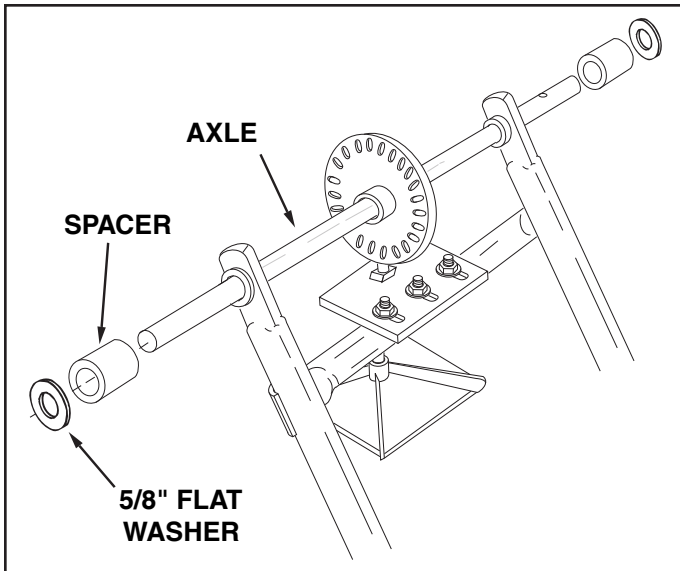

FIGURE 1
2. With the spreader resting upside down on the top of the hopper, assemble a spacer and then a 5/8" flat washer onto each end of the axle. See figure 1.